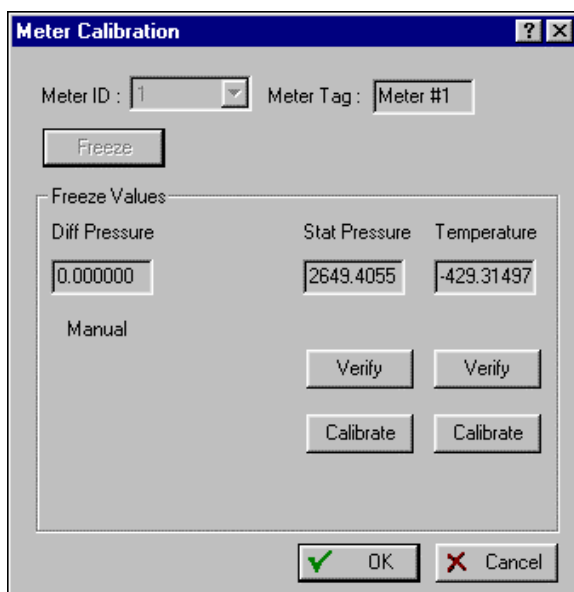

Figure 8-11. Meter Calibration Window
2. If the meter inputs were already released from the freeze condition, click **Freeze**. This returns the Meter Calibration window as shown in Figure 8-11.
3. Click **Freeze**. This opens the Meter Calibration window. Refer to Figure 8-11. The current reading displays under each meter input as the Freeze Value. The FloBoss uses these values in the flow calculations while verifying the points.